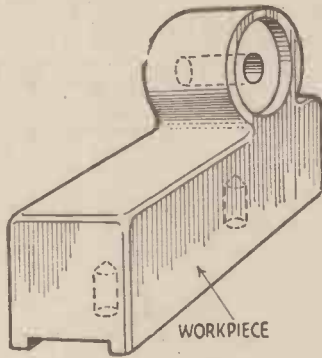

Fig. 24.—A workpiece drilled in the base and through one side.
**T**HE workpiece shown in Fig. 24 is drilled in the base and through one side. The side hole is counter-bored after drilling while the work is still in the jig. Actually the example can represent a casting or drop forging and the only machining performed on the part prior to drilling is that on the bottom surface. This consists of milling the base and the slot extending from end to end of the part. In such a case as this it would be correct to presume that the base would be machined to a dimension taken from the top of the boss and therefore as the hole in the boss would need to be approximately central the part would be positioned endwise in the jig by means of a clamp engaging it.
A suggested method of handling the part illustrated in Fig. 24 is shown at Fig. 25. As will be seen the "built up" method of construction is employed. The side plates are of cast iron machined on both sides and are slightly relieved in the centre bottom to leave feet at the ends. At the top (as drawn) the plates are cut away in a similar manner but to a greater extent to permit easy access to the clamping screw in the swinging clamp member. The bottom member is of steel and has a machined tongue to register the slot in the base of the work-piece. It is intended that the tongue should clear the bottom of the slot by a slight amount. Therefore the sides of the tongue should be undercut at their junction with the base in order to provide swarf clearance. This part carries the bushes for the blind holes shown dotted in Fig. 24 and should be subsequently hardened and finished by surface grinding. Needless to say, in any event, the surfaces which abut on to the side plates require to be parallel.
Thus, for work needing a bottom location from a machined surface and approximate end location for the centralisation of a boss, the only departure from the arrangement shown might be in the shape of the locating surface on the bottom member. An article having a double boss, that is, one like that illustrated in Fig. 24 at each end of the work, could be taken care of by a male vee block bearing between the inner flanks of the bosses and backed up by a pressure screw. For work where end location depends upon a previously machined face, a spring-loaded wedge attached to the hinged member can be utilised to press the surface of the work against a suitable end locating pad in the jig.